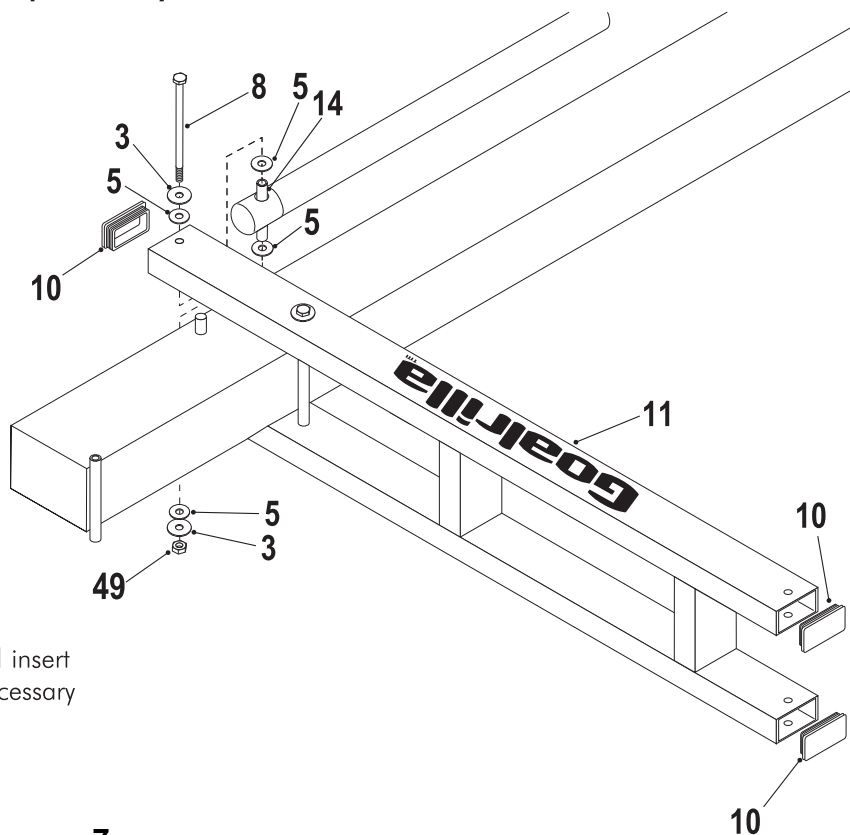

Figure 6
5. Secure Actuator (#16) to Lower Arm (#11) using one bolt (#8), two flatwashers (#3), four plastic washers (#5) and one thin locknut (#49). See Figure 6. Tighten both bolts (#8) snug but, do not over tighten. Board Arms must pivot freely.